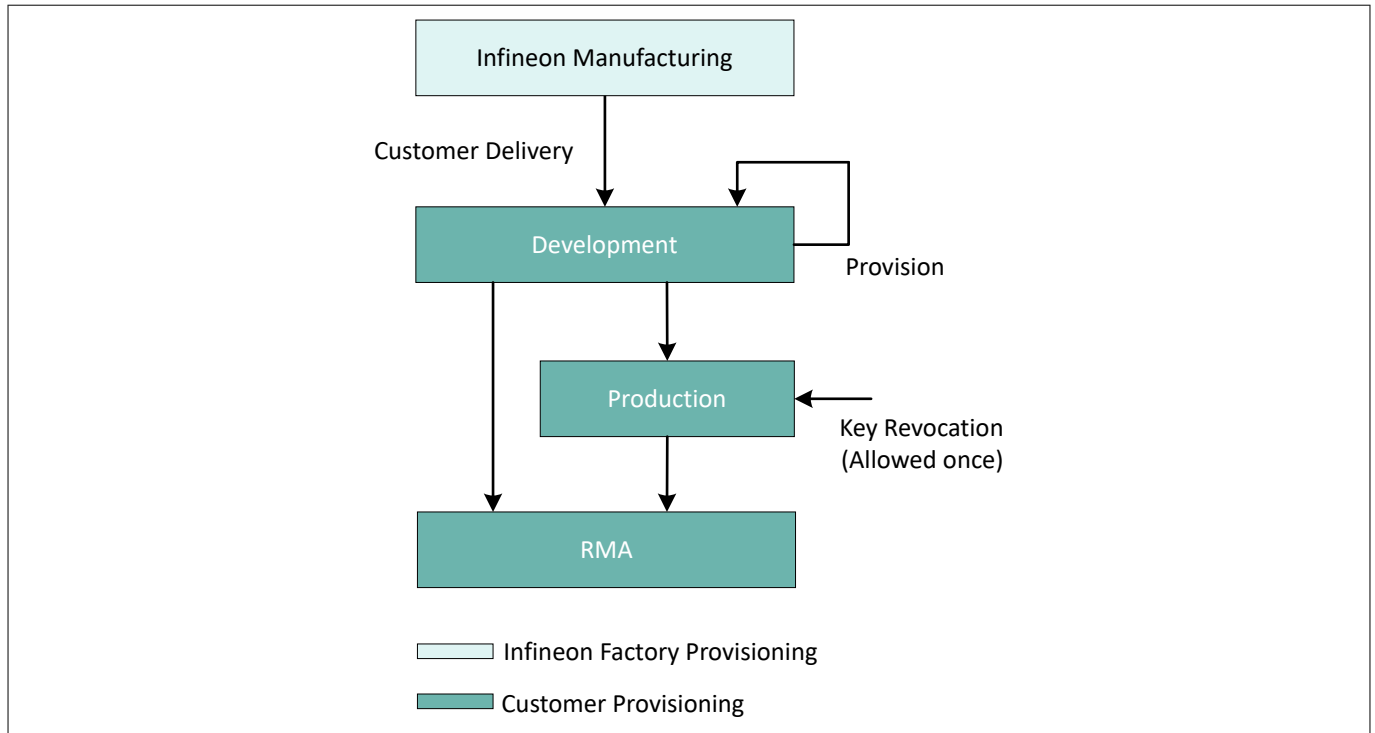

Figure 2 LCS transition
The RMA stage is only used in the event that a problem is found in the hardware and the device must be shipped back to Infineon for failure analysis (FA). Figure 2 shows the flow from development to RMA.
BootROM execution flow depends on the lifecycle stage at which the MCU is running. LCS is dictated by blowing eFuse bit values in to the device. During provisioning, the LCS can be moved for the device. Infineon signed RAM applications are used to provision the assets into the device and change the device LCS. RAM applications and the associated input parameters are loaded into the device SRAM through a SWD or DFU serial interface. RAM applications are authenticated by BootROM before it execute from device SRAM. The LCS is sequential and cannot be reverted back to the previous stage, since the LCS is maintained in the eFuse memory. Device DAP access restriction shall be based on a deployed policy, which will be applicable for both production and development LCS. Figure 2 shows the LCS transition in the PSOC™ Control C3 device.